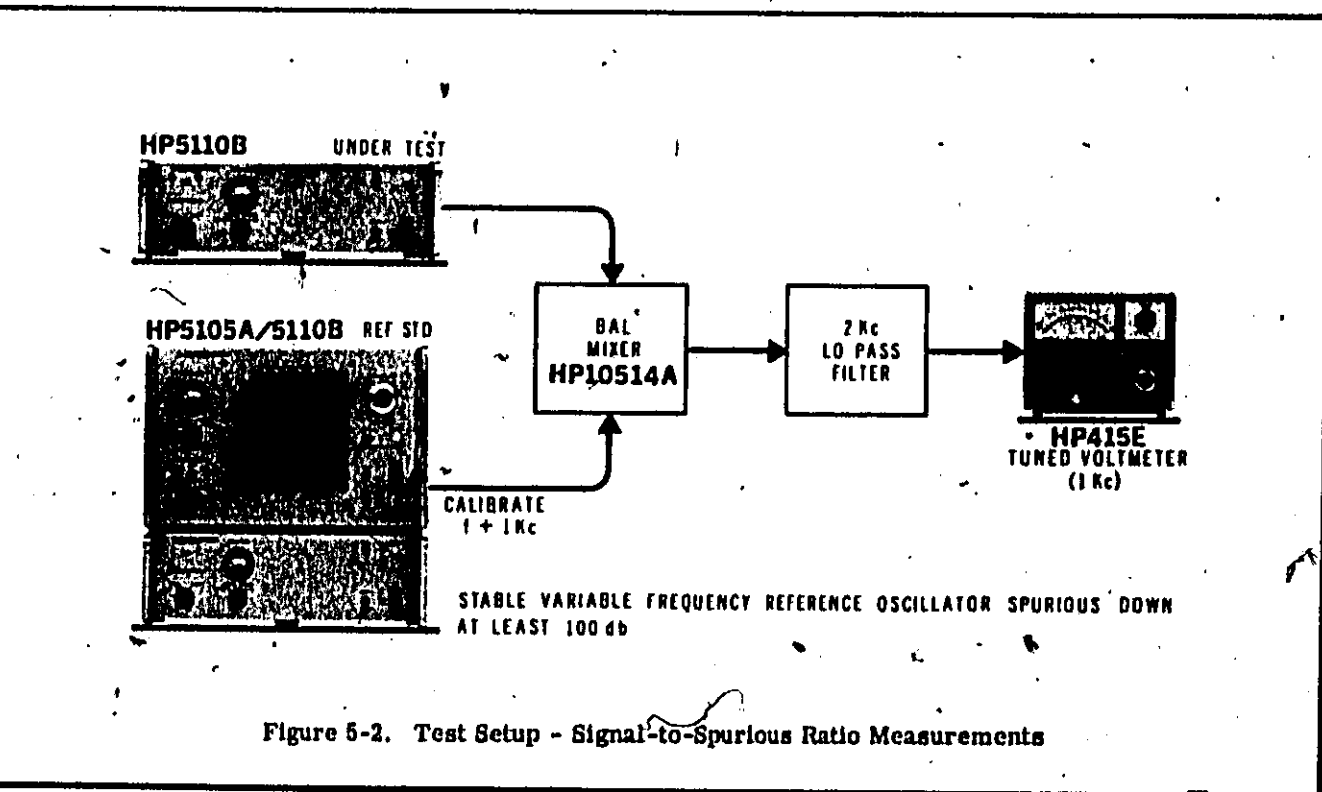

Figure 5-2. Test Setup - Signal-to-Spurious Ratio Measurements
Make the measurements using setup shown in Figure 5-2 and the following procedure:
1. Connect the equipment as shown in Figure 5-2.
The tuned voltmeter is calibrated for an input from a square law device (output voltage proportional to power input). The db reading must be doubled when using the voltmeter in the circuit of Figure 5-2. That is, an indication of 40 db is really 80 db in this application.
Use circuit of Figure 5-2 to measure the harmonic signals. There should be a 40 db attenuation between the frequency standard and the signal input of the Mixer. A 5105A/5110B may be used as the reference standard. Use same general procedure for checking the second, third, and fourth harmonics of the 1 Mc fundamental as was used in checking signal-to-spurious ratio on the output frequencies.